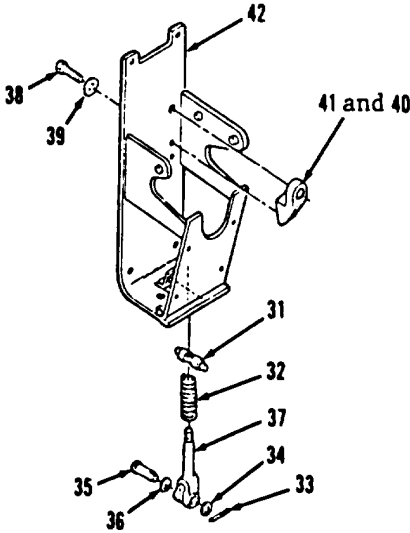
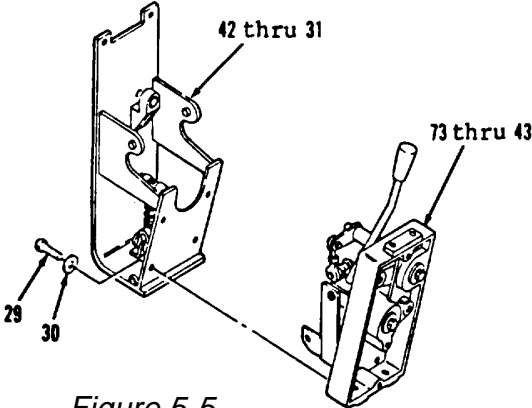
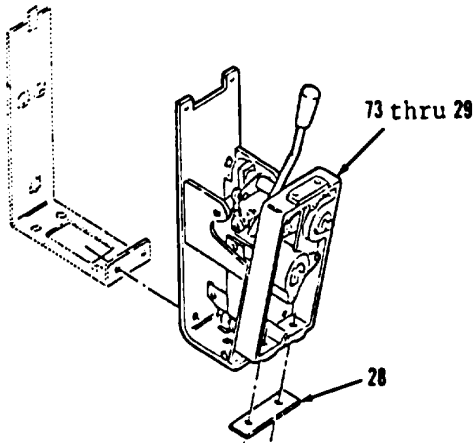

Figure 5-6.
Figure 5-5.
Figure 5-4.
- 16. Install items 41 and 40 as an assembly, two washers (39) and bolts (38, Figure 5-6).
- 17. Install rod (37), washer (36), pin (35), washer (34) and new cotter pin (33).
- 18. Install spring (32) and pin (31).
- 19. Install items 73 thru 43 as an assembly to items 42 thru 31 as an assembly (Figure 5-5).
- 20. Install four washers (30) and bolts (29).
- 21. Position pad (28, Figure 5-4) and place on cab floor.
- 22. Position items 73 thru 29 as an assembly on cab floor.